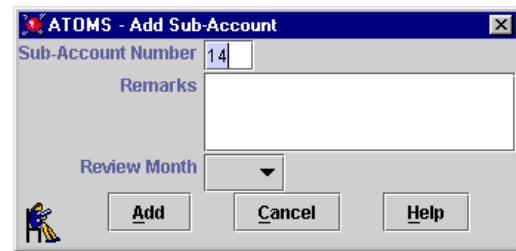

Figure 4-8. Add Sub-Account Window
- 2) Click **Add** on the Edit Sub-Account window. The Add Sub-Account window appears (see Figure 4-8).